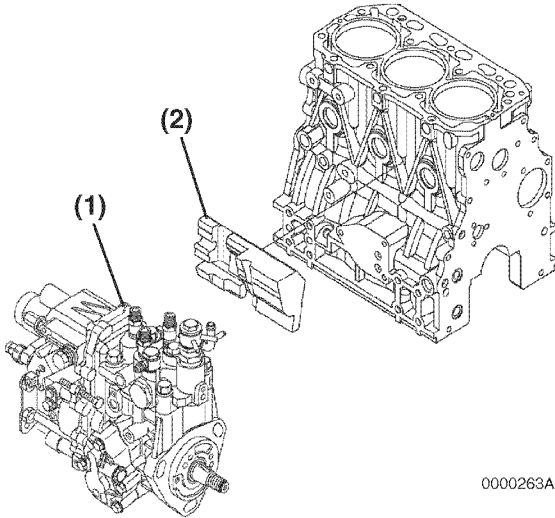

Figure 7-31
12. If equipped, verify the fuel injection pump insulator (**Figure 7-31, (2)**) is not damaged. Reinstall the insulator and intake manifold if previously removed.